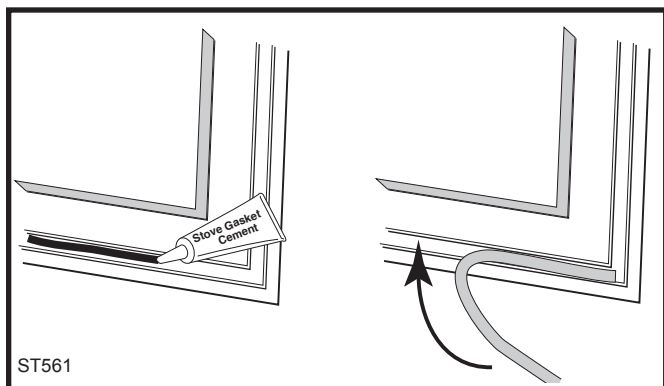

Fig. 47 Lay a bead of gasket cement then press gasket in place.
3. Determine the correct length of the appropriate-sized gasket by laying it out in the channel. Allow an extra 1-2" (25-50 mm), and mark the spot to be cut. (Fig. 47)
6. Starting at one end, press the gasket into the channel. (Fig. 47) Ensure a good joint where the gasket meets before trimming any excess. Do not overlap the gasket ends or leave ends with ragged edges.